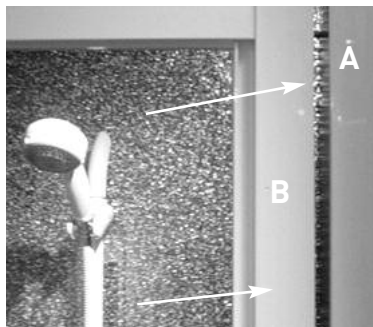

Figure a6
⑥ Once the Bi-Fold Door (B) is sitting fully inside one Wall Profile (A) (Stage 5), slide the Bi-Fold Door following the arrows (Figure a6) into the remaining Wall Profile.